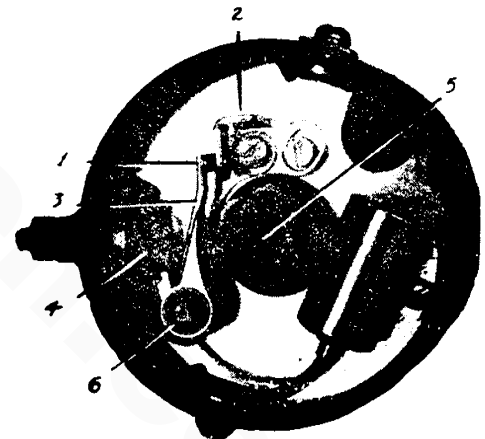

Fig. 60 Distributor Body
(1) Points which show only a slight discoloration and are not badly pitted should be cleaned with a fine point file and reset for a gap
of 0.018 to 0.022 inch. See Fig. 60 (1).
(2) Badly worn or pitted points should be replaced. When replacing points be sure they are properly aligned. Bend stationary arm (2) slightly to align points. Do not bend breaker arm (3).
(1) Hook a spring scale to the contact end of the breaker arm and hold at right angles to the contact surfaces.
(2) Read the scale just as the contacts separate. Scale reading should be between 17 and 20 ounces.
(3) If the scale reading is not within the above limits, loosen the terminal post, holding the end of the spring (Fig. 60 (4) and slide the end of the spring in or out as necessary.
(4) Tighten terminal post and re-check tension.
(1) Place one drop of light engine oil on the breaker arm hinge pin. See Fig. 60 (6).
(2) Place three drops of light engine oil on the felt in the top of the breaker cam. See Fig. 60 (5).
(3) Place three drops of light engine oil on the governor weight pivots.
(4) Add three to five drops of light oil to the oiler on the outside of the distributor base.